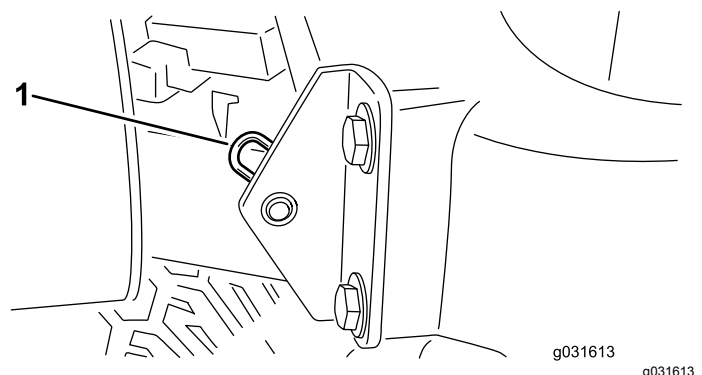

Figure 58
2. Remove the hairpin cotter securing the hood pivot to the mounting brackets (Figure 58).